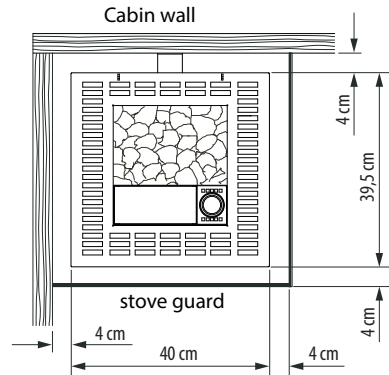

Fig. 2
- When assembling the sauna heater, make sure that the horizontal (side) clearance between the heater and cabin wall is at least **4 cm** (fig. 2).